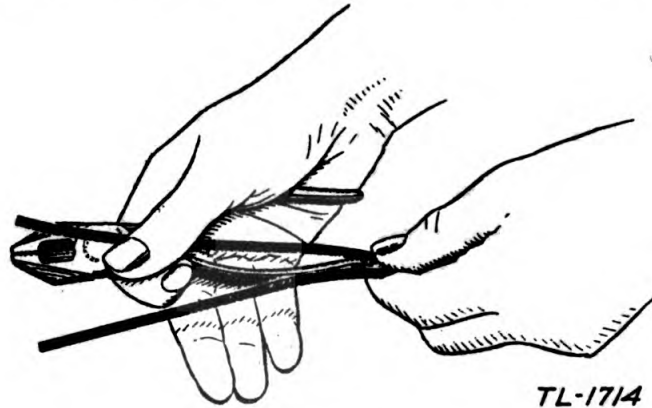

Figure 1
- b. Measure one plier's length on one conductor (about 6 inches) and cut this length off, as illustrated in figure 1.